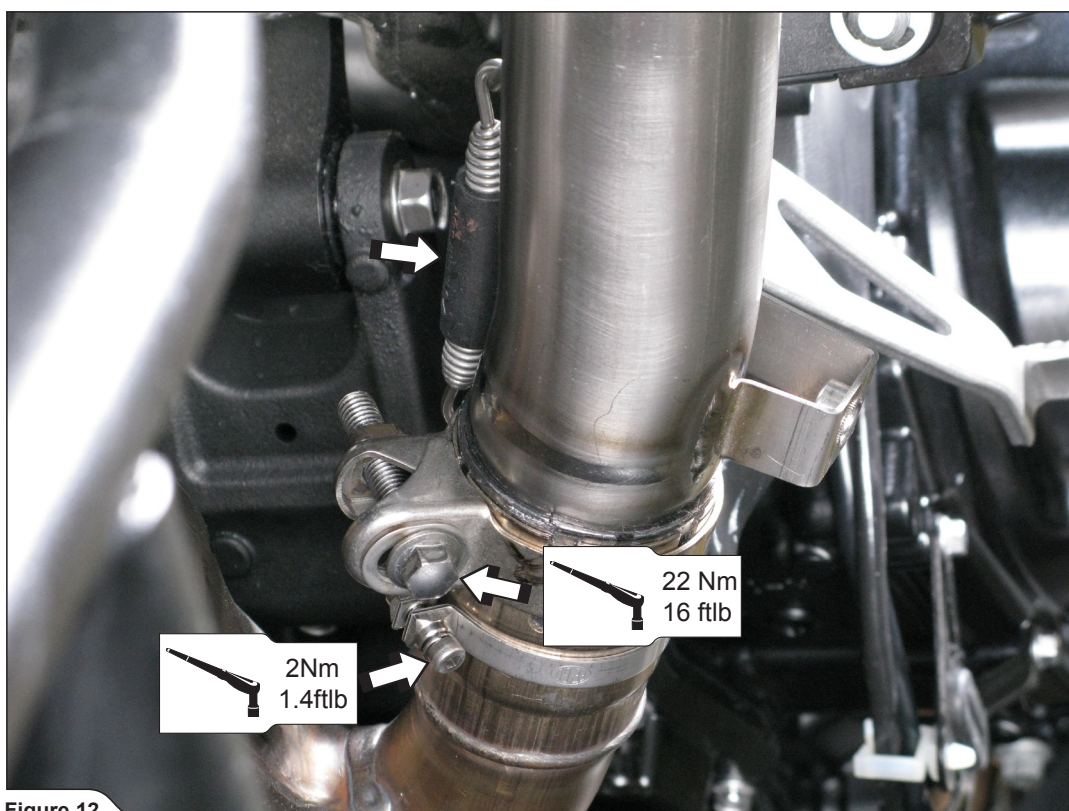

Figure 12
5. Attach the springs and tighten the clamps to a specified torques on both sides of the motorcycle (**Figure 12**).